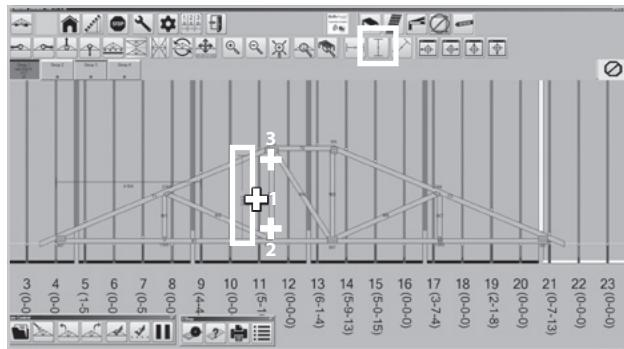

Figure 47
3.8.2. Dimension verticale (Figure 47):